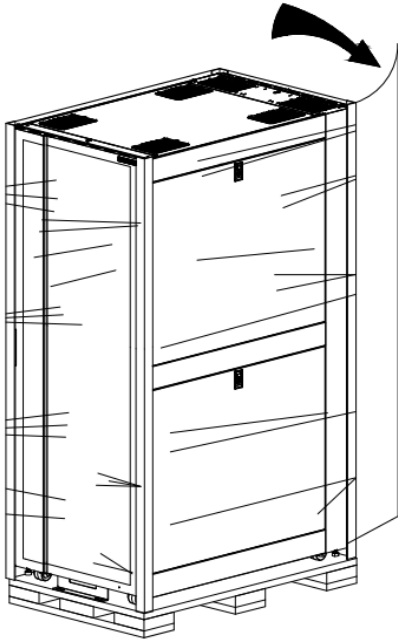

Figure 3.1
- Remove the film wrap around the cabinet, as shown in Figure 3.1